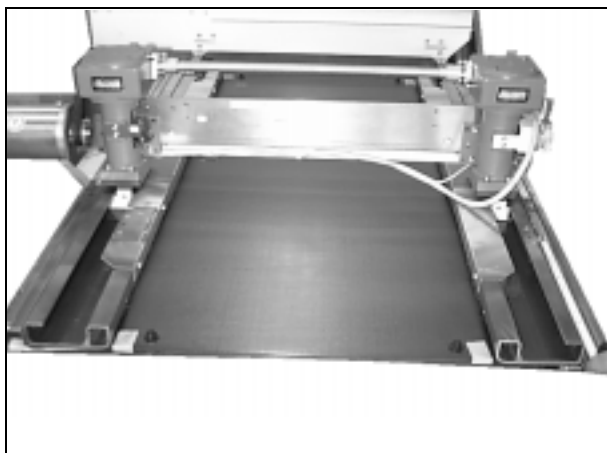

Fig. 11
- Prepare the new tabletop and insert the transverse carriage (Fig.11).